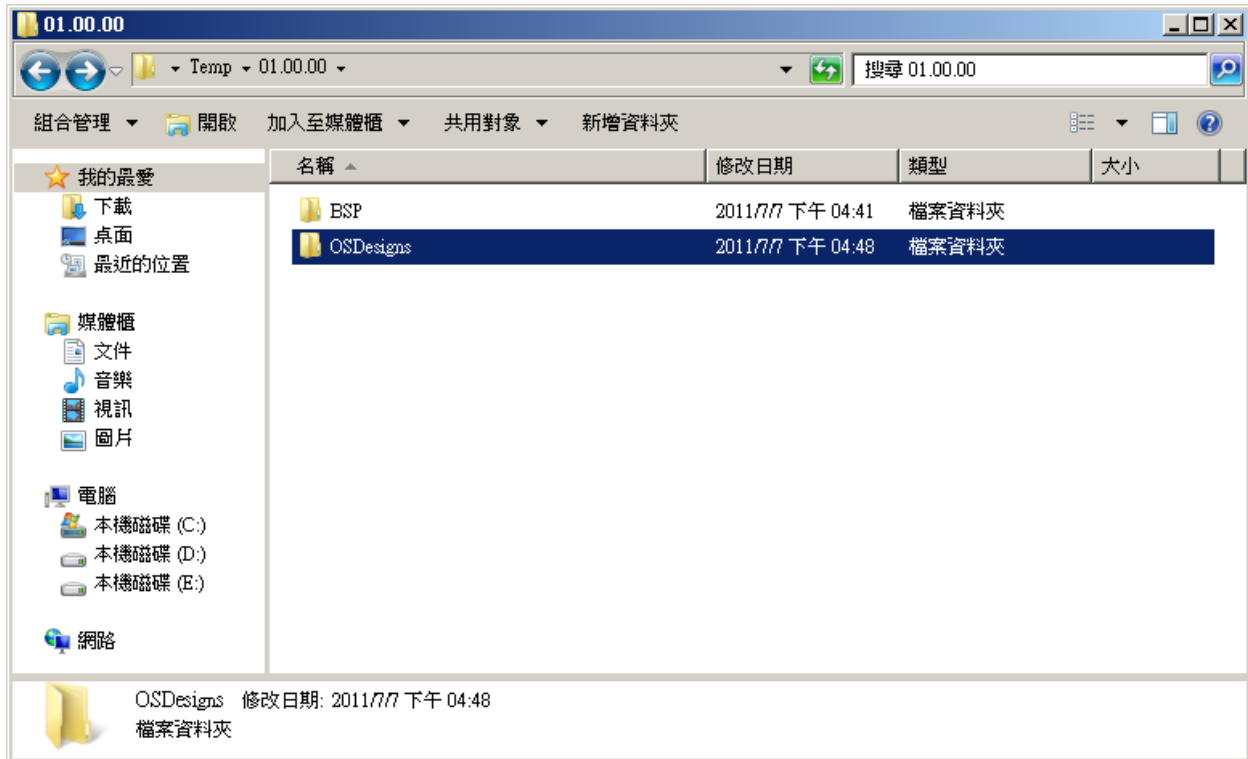
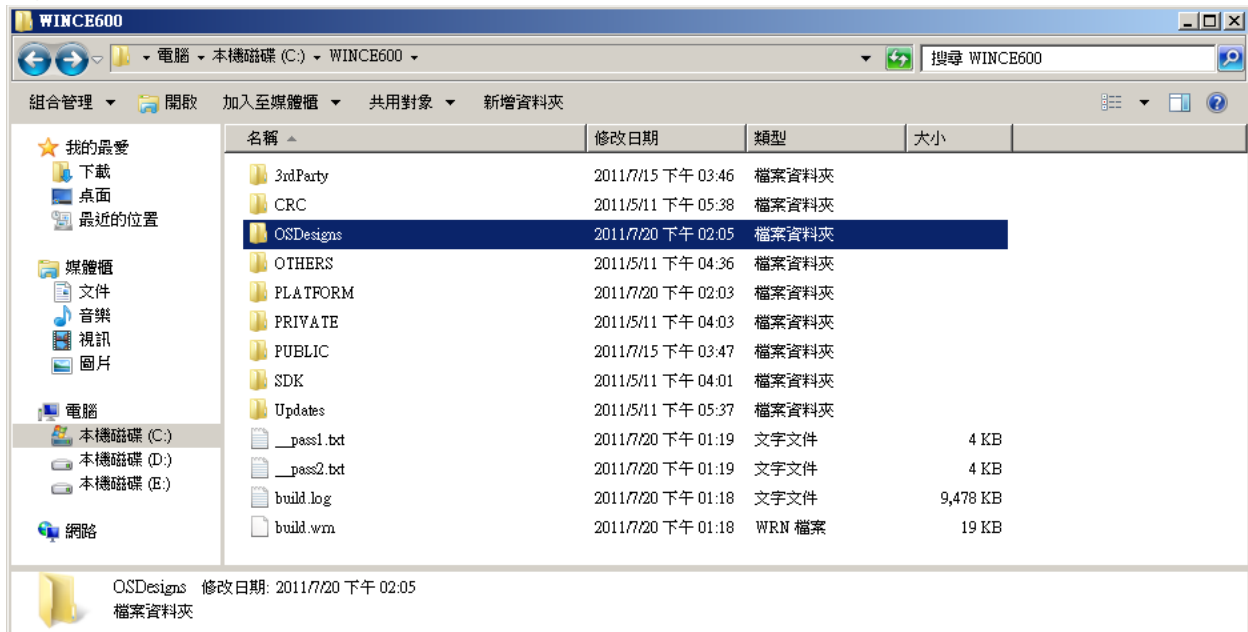

Figure 4
Figure 5
- Go back to the decompressed folder “01.00.00” folder, and copy the “OSDesigns” folder to “C:\WINCE600\”. (See figure 4 and figure 5)